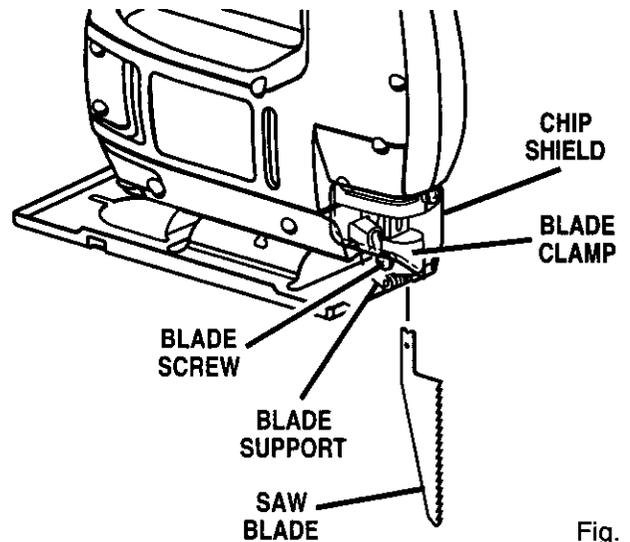

Fig. 13
- Loosen blade screw and insert flush cutting blade as far as possible into slot in blade clamp as shown in Figure 13.